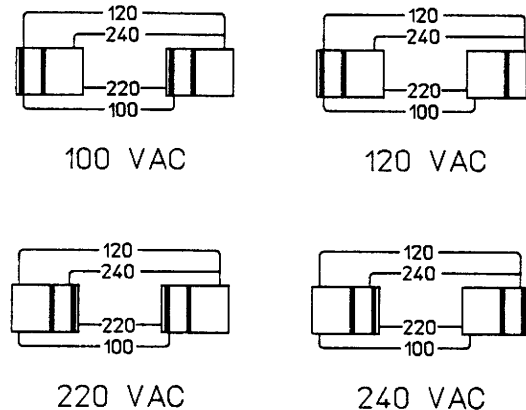

Figure 2. AC line voltage switch positions
2. With a small flat blade screwdriver, move the switches to the appropriate positions as shown in Figure 2